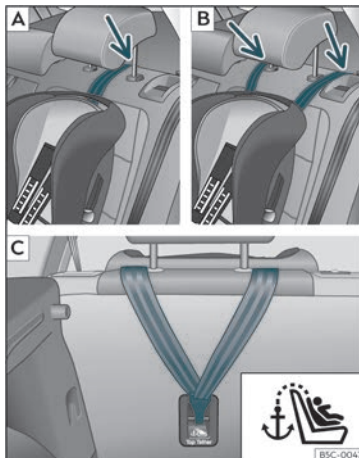
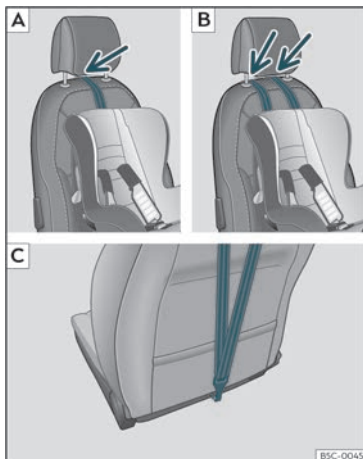

Fig. 33 Rear seats: adjustment and assembly according to the Top Tether belt.
Fig. 34 Front passenger seat: adjustment and assembly according to the Top Tether belt.
lift or remove the headrest if necessary) >>> **Fig. 33 [A]/[B]**, >>> **Fig. 34 [A]/[B]**.
- Slide the strap and secure it properly with the anchorage of the backrest >>> **Fig. 33 [C]**, >>> **Fig. 34 [C]**.